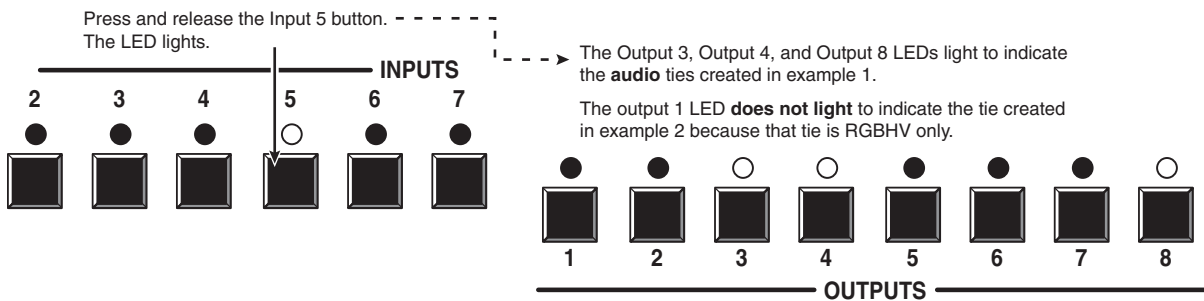

Figure 3-17 — Select an input
3. Press and release the Input 5 button (figure 3-17).